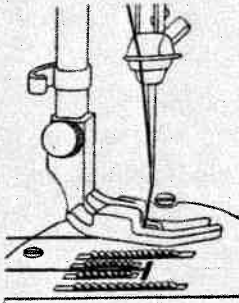

Fig. 13
4. Place both ends of the upper and lower thread to the back of the presser foot (Fig. 13).